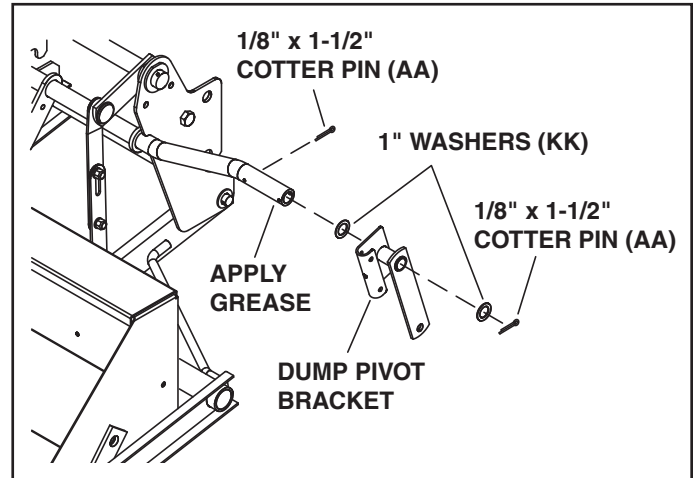

FIGURE 7
STEP 8: INSTALL DUMP PIVOT BRACKET (SEE FIGURE 7)
- Install a 1/8" x 1-1/2" cotter pin (AA) to the inside hole in the shaft shown in figure 7, and then install a 1" washer (KK) onto the shaft. Apply grease to the end of the shaft and install the dump pivot bracket assembly onto the shaft. Install a 1" washer (KK) onto the shaft and secure it using a 1/8" x 1-1/2" cotter pin (AA).